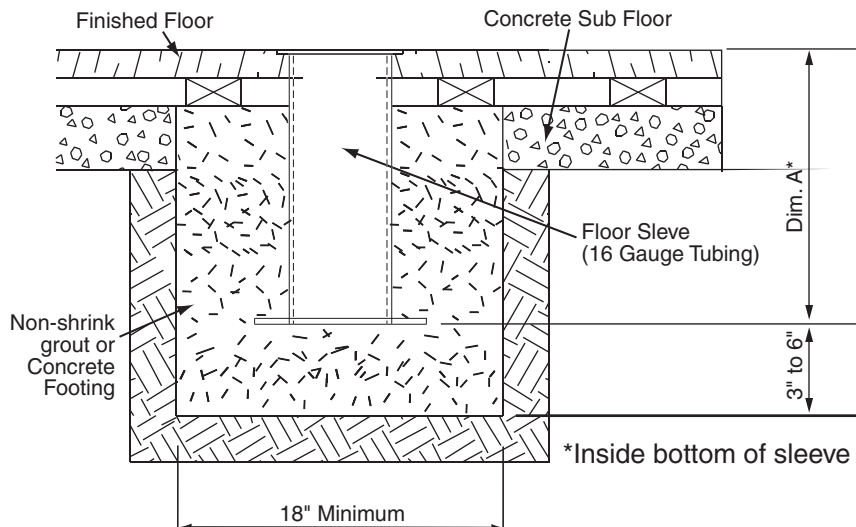
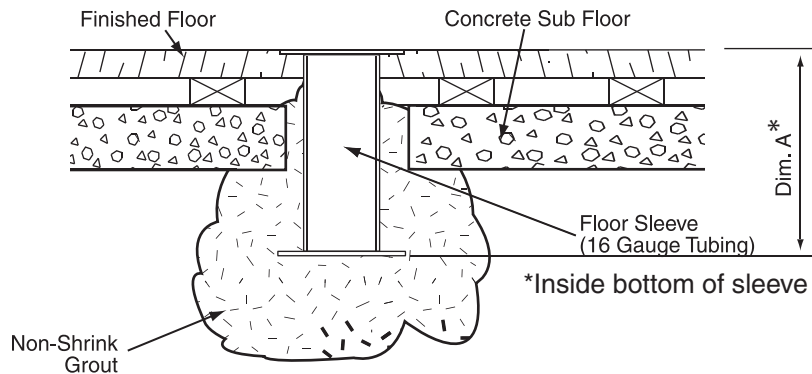

Figure 1
Figure 2
- ① For new floor, determine the total finished floor thickness, and the height the sleeve should extend above (for wood gym floor) or below (for synthetic gym floor) the top of the concrete sub floor (see Fig. 1). For existing floor, simply measure from the top of the floor (see Fig. 2).
- ② Sleeves must be installed plumb, with bottom exactly at dimension A, below the finished floor elevation.
- ③ Install standard sleeves according to these dimensions (center-to-center):